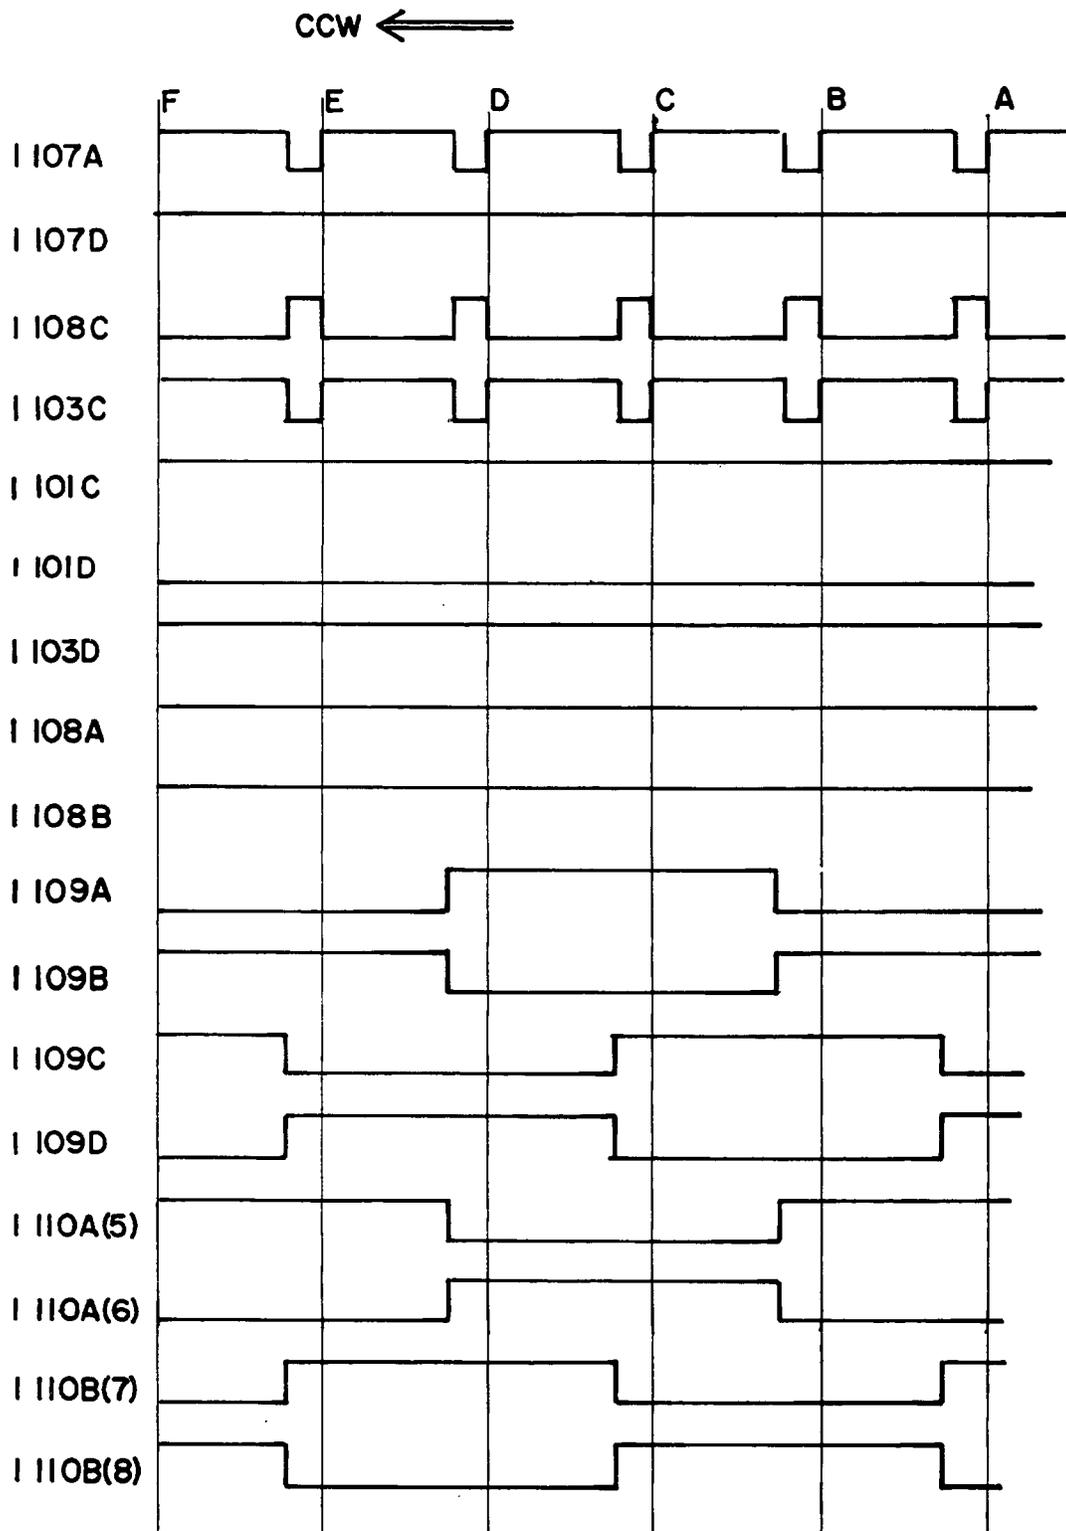

FIGURE 4-9 CCW HEADING ROTATION WAVEFORM RECONSTRUCTION SEQUENCE
Reconstruction of the CCW cycle is essentially the same as the CW sequence except that gates I109B and C are now enabled by I103D and I108A and B are inhibited by I101D. When the CCW pulses appear at I107A, they cause I101C and D to latch up in the opposite state where I101D is a logic ZERO. This state reversal simply connects I110A (6) instead of I110A (5) to I110B, and I110B (9) instead of I110B (8) to I110A. The sequence can be reconstructed by following the waveforms shown in Figure 4-9, going from right to left.